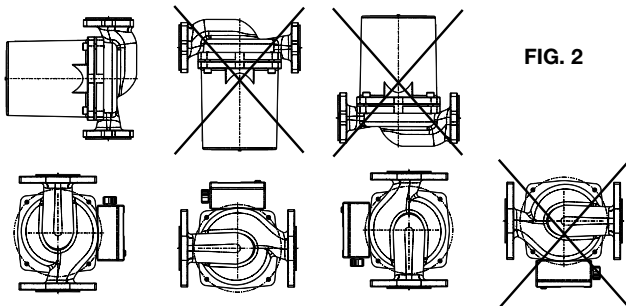

FIG. 2
The Model NRF/NBF Circulator can be installed to discharge up or down, horizontally, left or right, but the motor shaft must remain in the horizontal position, the arrow on the body must point in the direction of the flow, the conduit box must be positioned on the top or to the side of the motor housing (see figure 2). If the conduit box position must be changed, it is best to do so before installation. However, if the pump is already installed, see the section titled "REMOVAL OF PUMP FROM EXISTING SYSTEM FOR REPLACEMENT" before proceeding.
1. Remove the four (4) 1/4-20 Allen screws (3/16 wrench) while supporting the motor assembly.
2. Remove the motor assembly from the pump body and rotate it to the desired position (see figure 2).